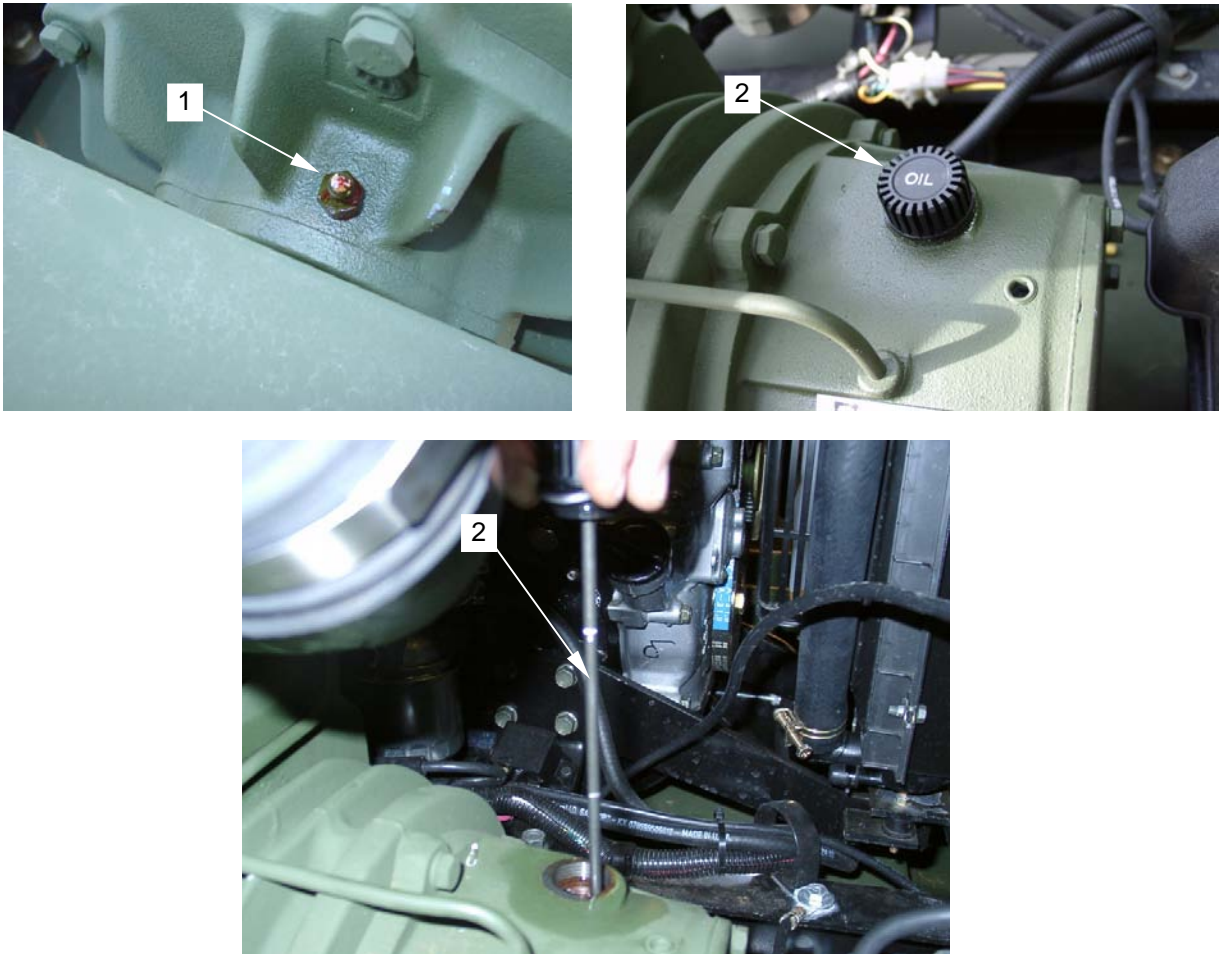

Figure 1. Lubricating Front Bearing and Replenishing Vacuum Pump Oil
1. Lubricate the front bearing grease nipple (**figure 1, item 1**) with ball bearing grease every 100 hours of operation.
2. Check and replenish vacuum pump oil as indicated by the dipstick (**figure 1, item 2**). Use SAE40 grade oil in summer and SAE30 grade in winter.